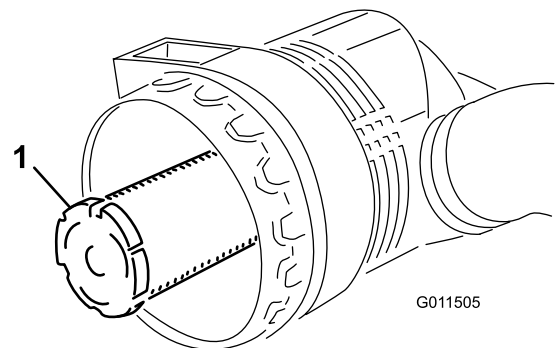

Figure 57
**Important:** Never attempt to clean the safety filter (Figure 57). Replace the safety filter with a new one after every three primary filter services.